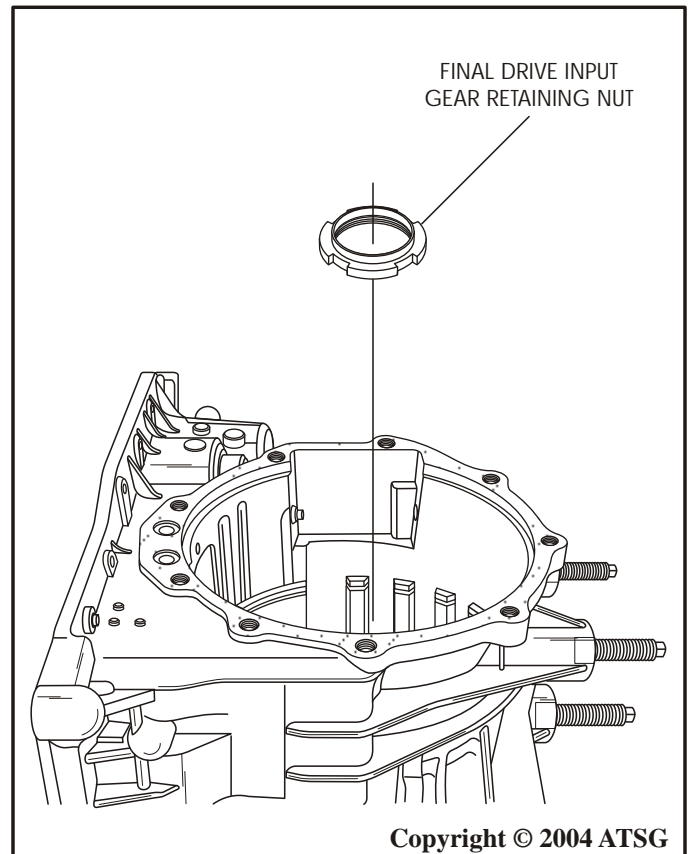

Figure 112
7. Remove the special tools and remove the final drive input gear retaining nut, as shown in Figure 112.